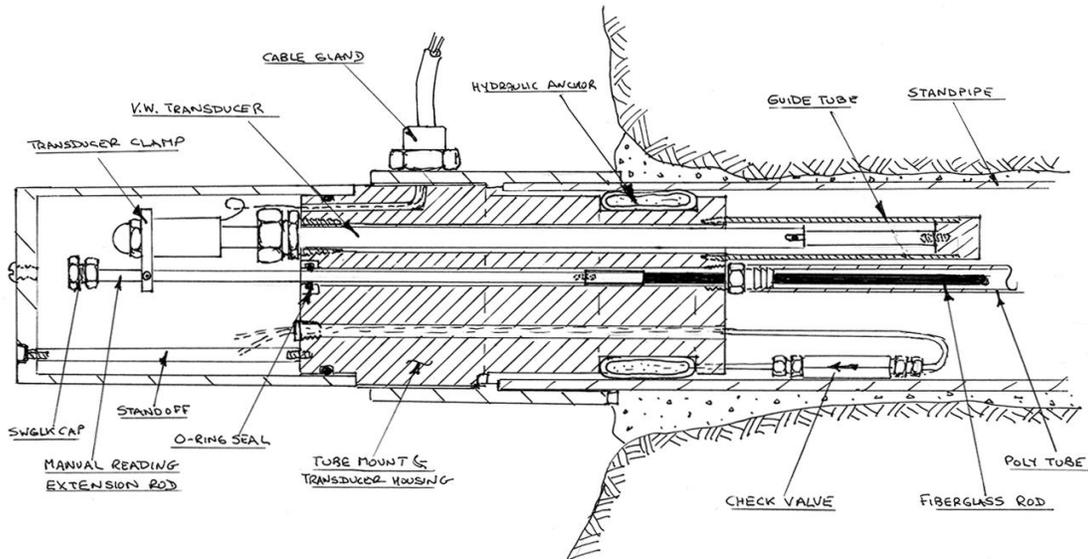

Figure 3
4.2.1 A typical MPBX head assembly, designed to accept vibrating wire displacement transducers and also permit manual readout is shown in figure 3. In this arrangement the transducers are not directly in line with the stainless rods but, instead, are recessed in guide tubes alongside the rods, leaving the tip of the rods free to be sensed by a dial indicator.